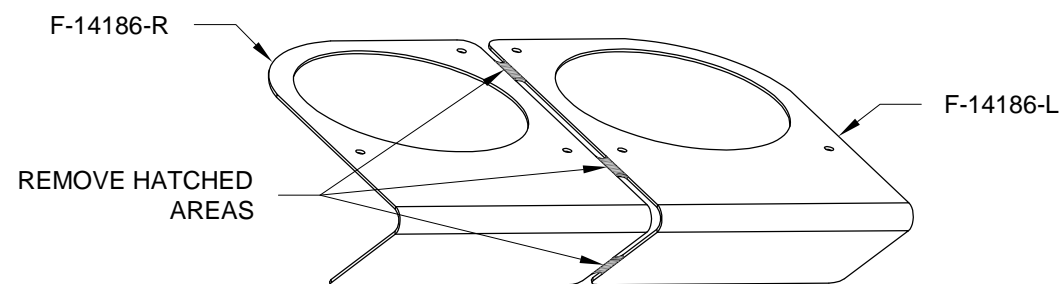

FIGURE 2: VENT BRACKET SEPARATION
Step 3: Separate the F-14186-L & -R NACA Vent Brackets as shown in Figure 2.